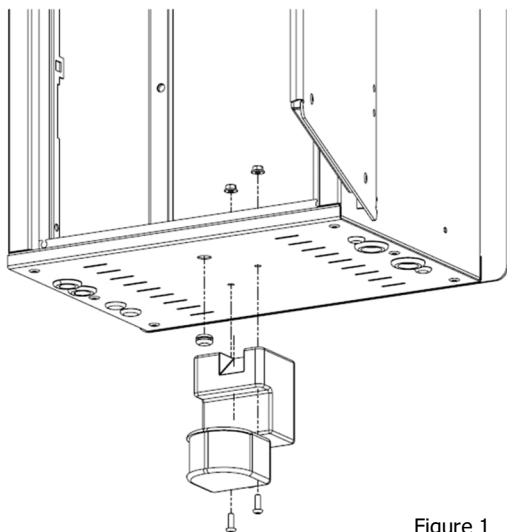

Figure 1
- Install your UNIDETECT 5.24 / 10.12 or UNILEDBAR (optional) (Figures 1 and 2). If not, fill in the holes (figure 3).